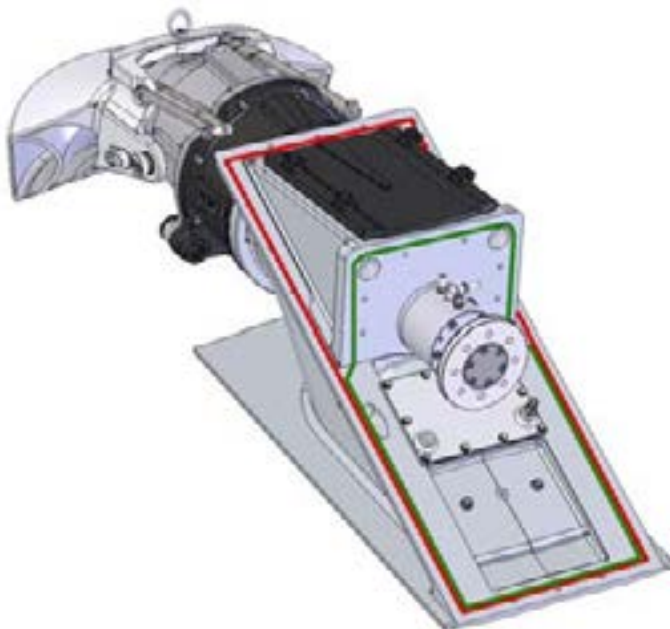

Figure 17. Surfaces to be sealed
1. Spread sealing compound (such as Sikaflex 221) on the fixing area, depending on which installation method you are using (figure 17, red line = Short Tail, green line = Long Tail).